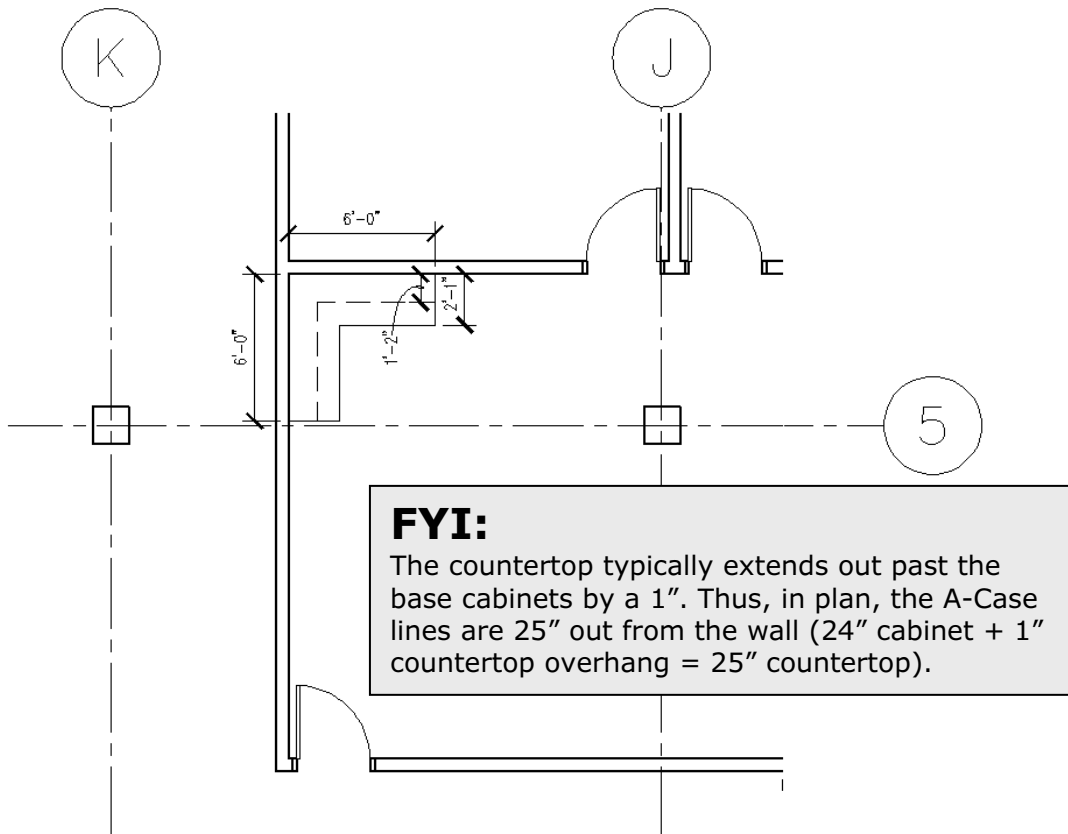

Figure 3-2.1 Drawing the work area casework
1. Draw the casework shown in Figure 3-2.1, *plus*: